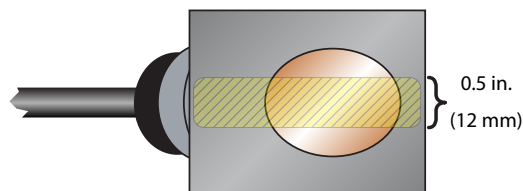

Figure 8: Application of couplant
3. Place a single bead of couplant, approximately 1/2 inch (12 mm) thick, on the flat face of the transducer. See Figure 8. Couplant is provided with the transducers. Generally, a silicone-based grease is used as an acoustic couplant, but any good quality grease-like substance that is rated to not flow at the operating temperature of the pipe is acceptable. For pipe surface temperature over 130° F (55° C), use high-temperature paste (P.N. D002-2011-012) or non-silicone paste (P.N. D002-2011-009).
5. Place a single bead of couplant, approximately 1/2 inch (12 mm) thick, on the flat face of the transducers. See Figure 8 on page 8.
3. Place a single bead of couplant, approximately 1/2 inch (12 mm) thick, on the flat face of the transducers. See Figure 8 on page 8.
10. Place a single bead of couplant, approximately 1/2 inch (12 mm) thick, on the flat face of the transducer. See Figure 8. Couplant is provided with the transducers. Generally, a silicone-based grease is used as an acoustic couplant, but any good quality grease-like substance that is rated to not flow at the operating temperature of the pipe is acceptable. For pipe surface temperature over 130° F (55° C), use high-temperature paste (P.N. D002-2011-012) or non-silicone paste (P.N. D002-2011-009).